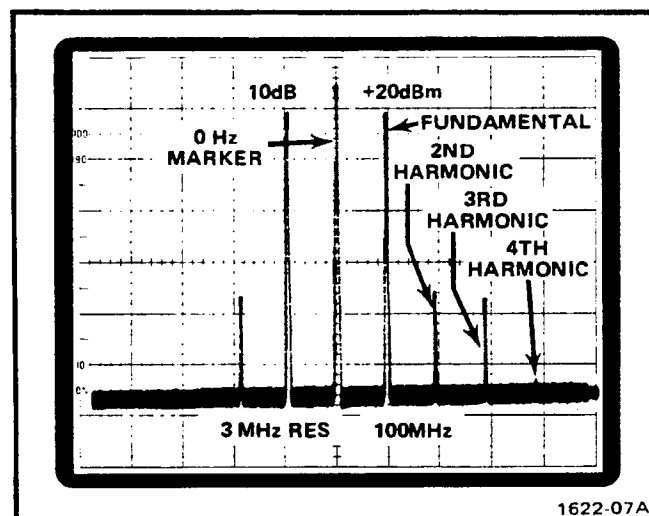

Fig. 2-3. Display of 100 MHz signal and harmonics.
d. Position the fundamental display to the top graticule line with the spectrum analyzer position control. See Fig. 2-3 for reference.
e. Slowly adjust the SG 503 FREQUENCY VARIABLE control over its entire range and check that the vertical distance (suppression) between the top of the fundamental and second harmonic display is at least 3.5 divisions; the tops of the remaining harmonics are separated at least 4.0 divisions. (Adjust the spectrum analyzer Frequency Span/Div control as necessary to maintain the harmonic display on screen.) See Fig. 2-3.